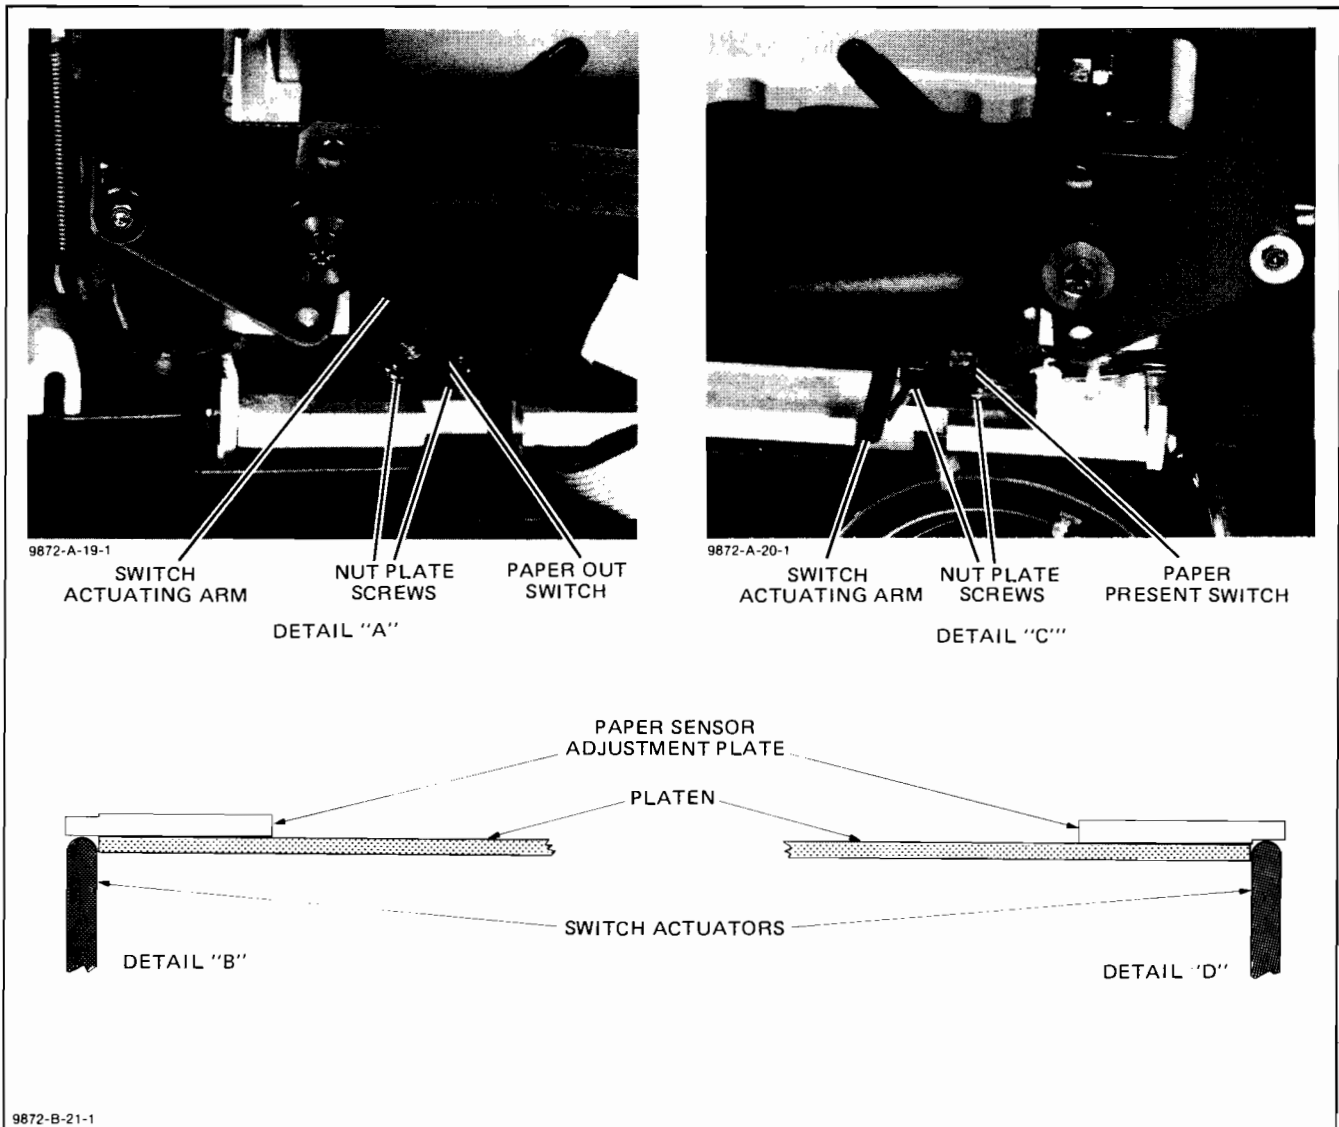

Figure A3-1. Paper Sensor Adjustment
- a. Set the plotter LINE switch to the OFF (O) position.
- c. Loosen, but do not remove, the two switch plate mounting screws. See Figure A3-1.
- d. Place the paper sensor adjustment plate as shown in Figure A3-1 for the appropriate switch, and move the switch plate toward the actuator arm until a click is heard. (If the adjustment plate is not available, the switch actuator may be held in the position shown in Figure A3-1.)